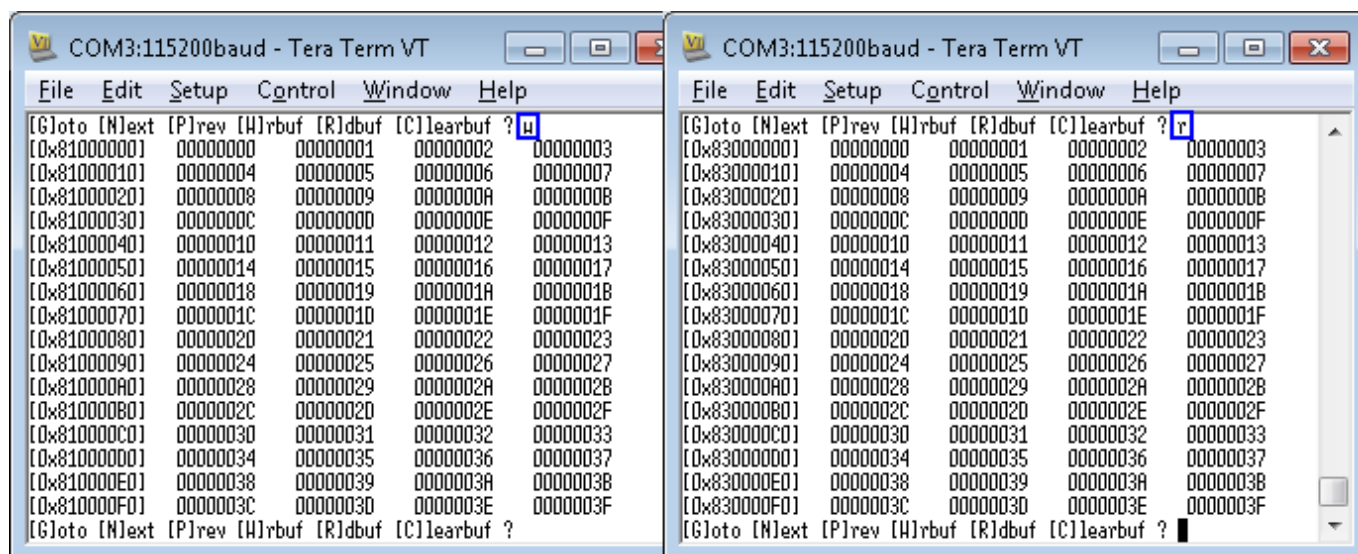

Figure 3-12 Read 256 byte data at top of write/read buffer
- 'W': this submenu is used to read 256 byte data at top of write buffer, as shown in Figure 3-12.
- 'R': this submenu is used to read 256 byte data at top of read buffer, as shown in Figure 3-12.